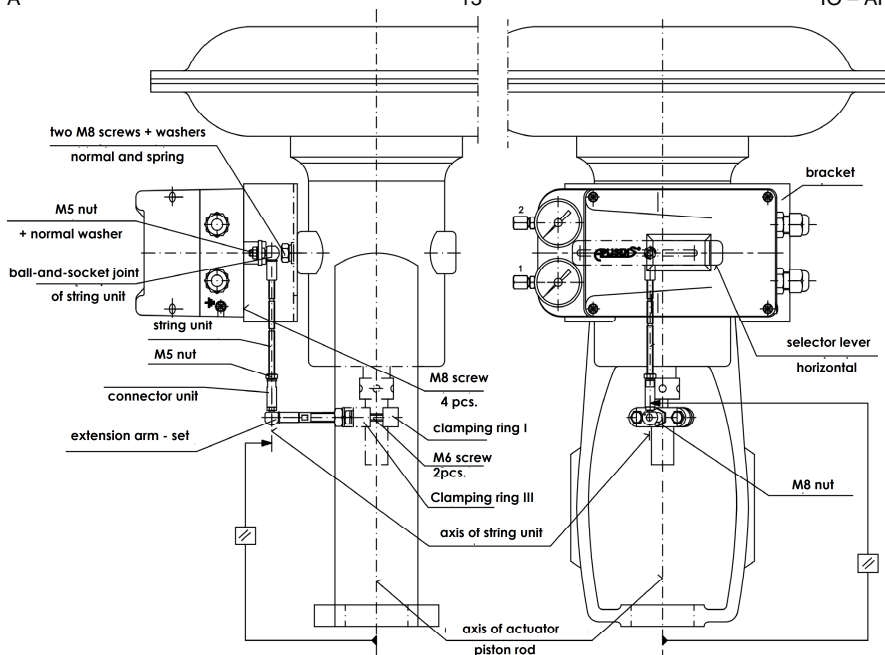

Fig.8. APIS-100-... positioner with APIS-A001 mounting set
- b) Fasten ball-and-socket joint on selector lever of the positioner, in place corresponding to actuator's stroke and tighten up a nut M5 ( see Fig. 8 and 9 ).
- i) Screw in extension arm set into clamping ring III, then adjust its length and move whole positioner with respect of actuator, thanks to longitudinal cut-out for clamping screws in mounting bracket, so as to string unit is visually parallel to the actuator piston rod. In case when extension arm is too long it should be suitably cut (see Fig. 8 and 9.)